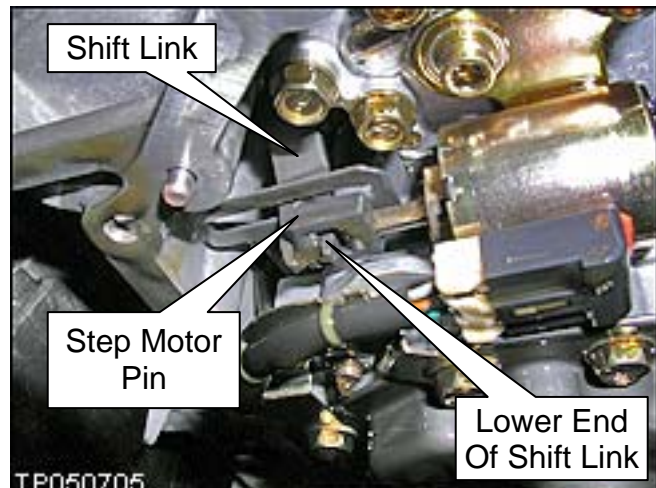

Figure 11
17. While you are doing step 16 above, the lower end of the shift link must stick through the bottom of the step motor pin as shown in Figure 11.